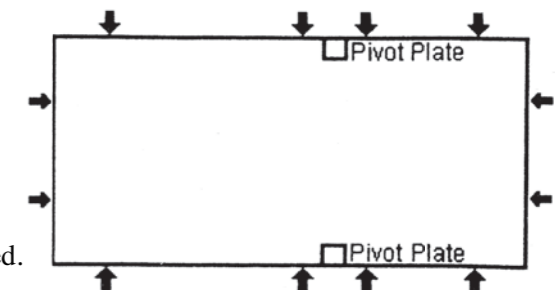

Fig. 6
- Step 4** Permanently mount the stairway using 16d nails or 3" lag screws in the locations shown in Fig. 6.